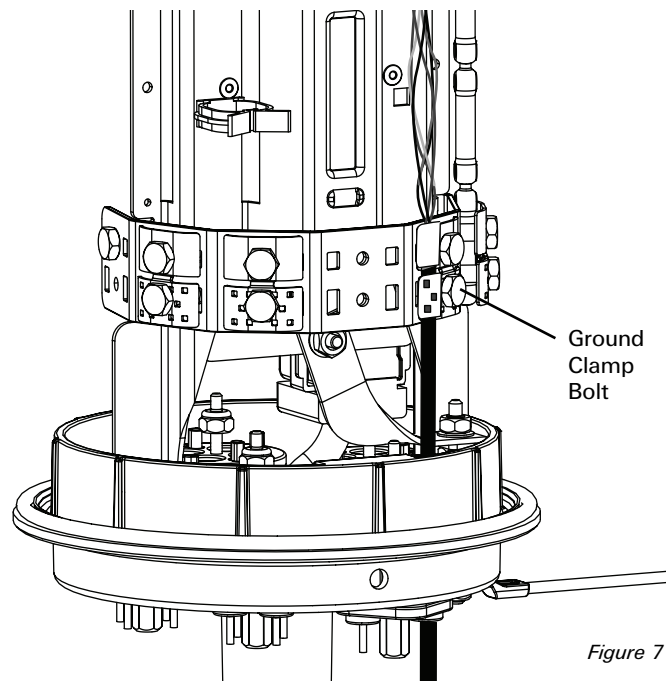

Figure 7
6. Use the 216 tool to loosen both bolts of the ground clamp so that the drop wire can be positioned underneath the ground clamp from the side. (Figure 7)
7. Position the drop cable so that the exposed shield is located under the top (solid) portion of the ground clamp, and the cable jacket is positioned under the bottom (perforated) portion of the ground clamp. (Figure 7) Add additional drops following steps 2-5 if necessary. Use a 216 tool to tighten both bolts on the ground clamp (25 in-lbs torque minimum) to secure the drop cable(s) in place.